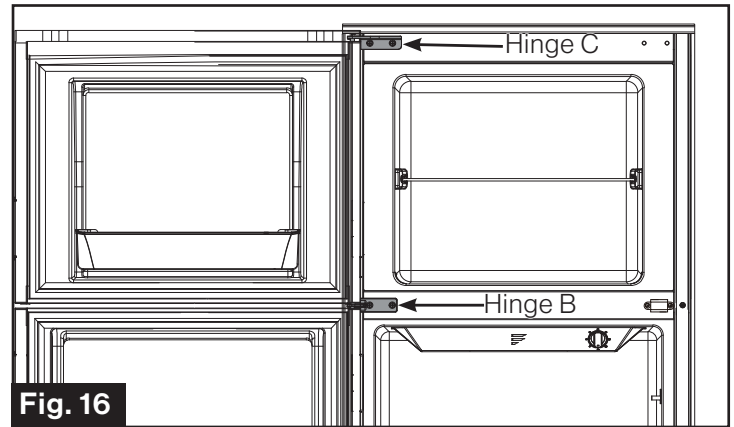

**Fig. 14**
6. Unscrew the Door Latch Bracket fixing screws and change it to the opposite side. (Fig. 14)